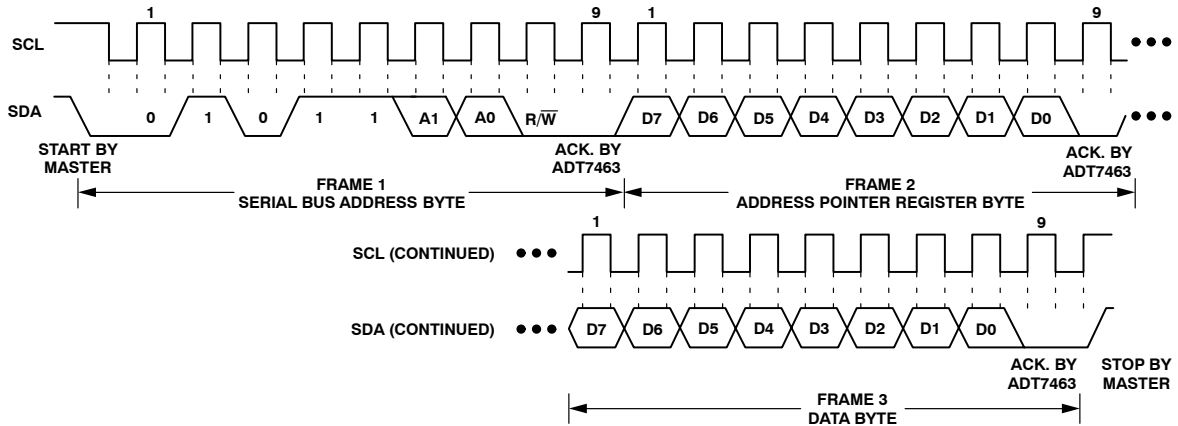

Figure 17. Writing a Register Address to the Address Pointer Register, then Writing Data to the Selected Register
This is illustrated in Figure 17. The device address is sent over the bus followed by R/\overline{W} being set to 0. This is followed by two data bytes. The first data byte is the address of the internal data register to be written to, which is stored in the address pointer register. The second data byte is the data to be written to the internal data register.
2. In Figures 17 to 19, the serial bus address is shown as the default value 01011(A1)(A0), where A1 and A0 are set by the address select mode function previously defined.